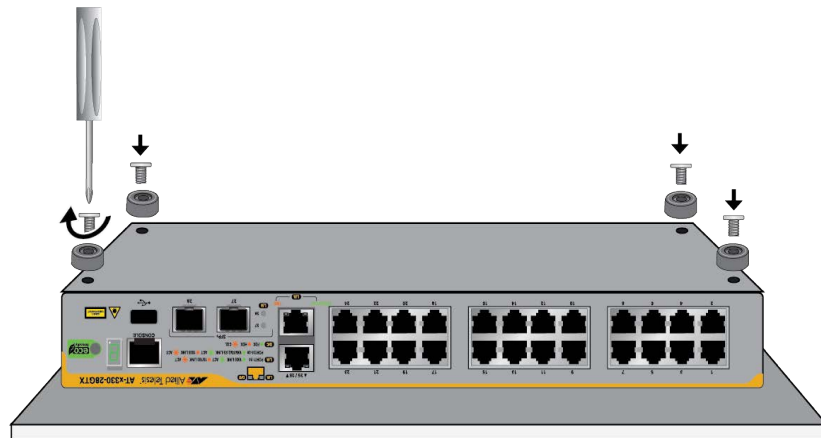

Figure 26. Attaching Bumper Feet on x330-10GTX, x330-20GTX, and x330-28GTX Switches
5. For the x330-10GTX, x330-20GTX, and x330-28GTX Switches, attach the four bumper feet to the bottom corners of the switch using the four 3x4.5mm screws and a Phillips-head screwdriver. Refer to Figure 26.